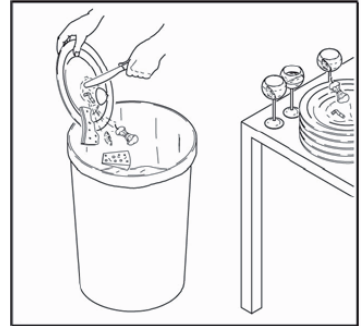

Fig. 13
- *Remove any food remaining from the dishes before washing them in the dishwasher (fig. 13)*